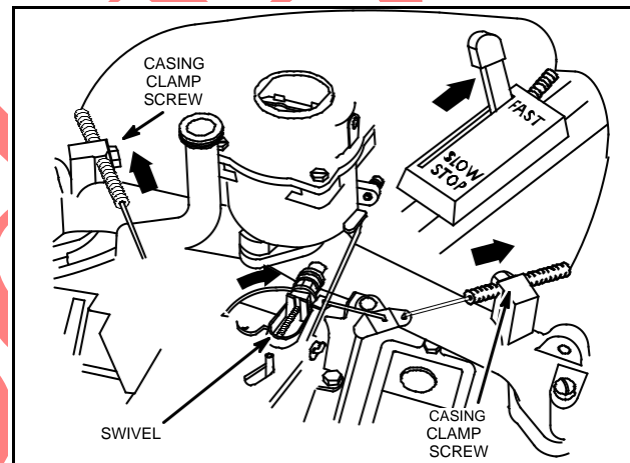

Fig. 5 – Remote Control – Twin II
1. Loosen control casing clamp at governor control bracket, Fig. 5.